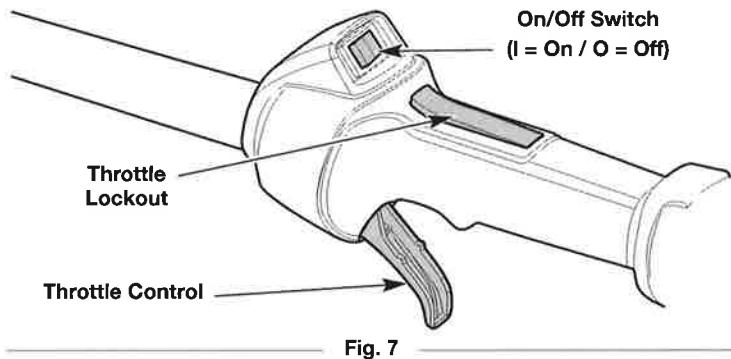

Fig. 7
- NOTE:** There is no need to turn the unit on. The On/Off switch is in the **On (I)** position at all times (Fig. 7).
- NOTE: DO NOT** squeeze the throttle control until step 8 (Fig. 7).
8. Press and hold the throttle lockout (Fig. 7). Squeeze the throttle control as needed for operation (Fig. 7).
2. Press and hold the On/Off switch in the **Off (O)** position until the engine comes to a complete stop (Fig. 7).
- NOTE:** There is no need to turn the unit on. The On/Off switch is in the ON (I) position at all times (Fig. 7).
- NOTE: DO NOT** squeeze the throttle control until step 10 (Fig. 7).
10. Press and hold the throttle lockout (Fig. 7). Squeeze the throttle control as needed for operation (Fig. 7).